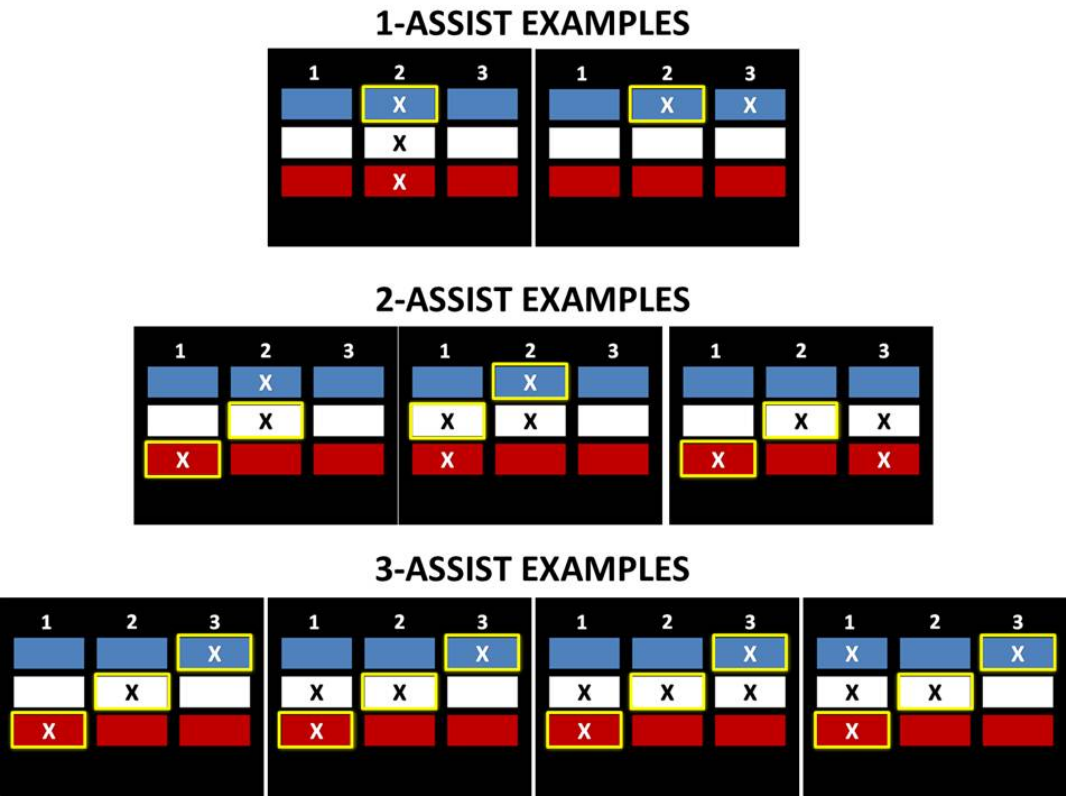

Figure 3-4: ASSIST Examples
ASSISTS are earned when a unique ALLIANCE ROBOT POSSESSES the ALLIANCE'S BALL in a unique ZONE (i.e. red, white, or blue ZONE) during a CYCLE. A ROBOT is considered in a ZONE if it is in contact with the carpet in a ZONE or the tape marking the ZONE, but not in contact with carpet or tape for another ZONE. Because there are up to three (3) ALLIANCE ROBOTS and three (3) ZONES, the maximum number of ASSISTS in a single CYCLE is three (3). Examples of the number of ASSISTS credited to an ALLIANCE are shown in Figure 3-4 (X = POSSESSION, yellow